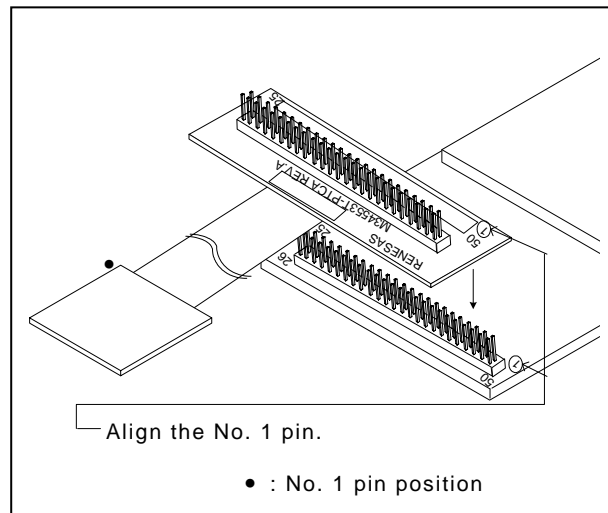

Figure 3 Connection procedure of the M34553T-PTCA
5. Connection Procedure (See Figure 3)